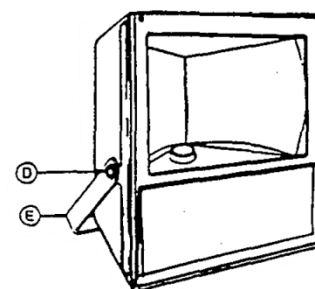

FIGURE 1
2. Loosen captive screws (A). Swing door frame (C) away. See Figure 1.
3. Remove screws (H) and lift panel out of luminaire.